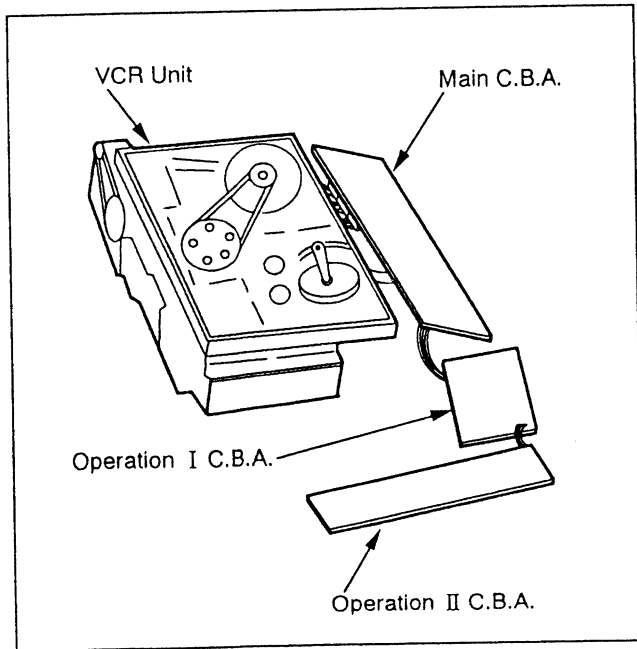

Fig. 1-2
3. Next, place the Mechanical Chassis up side down as shown in Fig. 1-2.